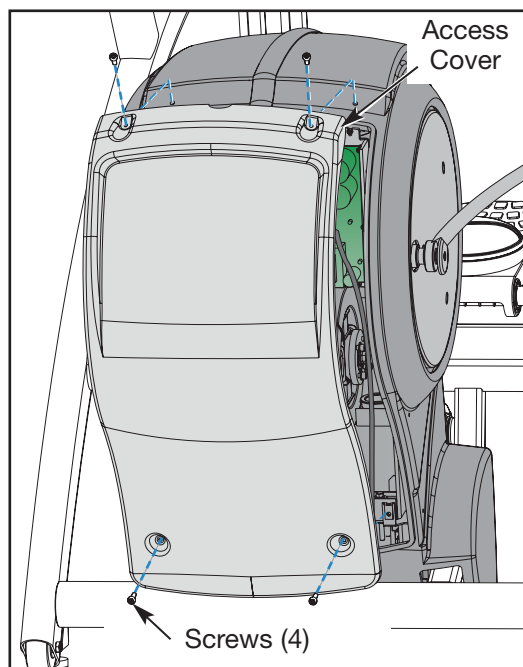
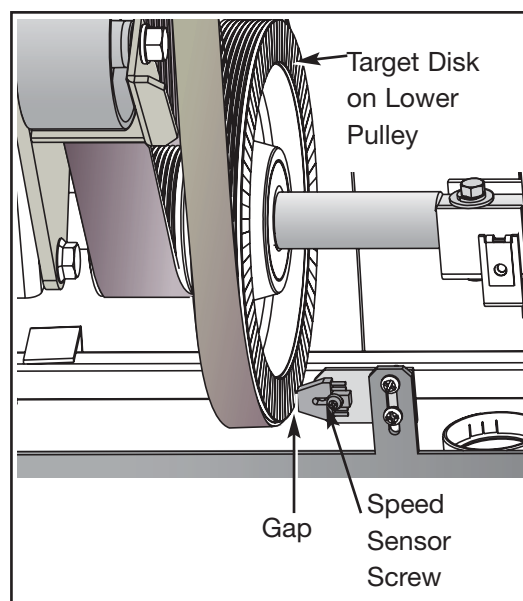

Figure 2
Figure 3
- A. Turn the main power switch above the power inlet to the off (O) position.
- A. Using a Phillips head screwdriver, remove the four screws securing the access cover. See Figure 2.
- A. Turn the lower pulley slowly and look for dirt, scratches or other damage on the target disk. See Figure 3. **NOTE:** If the target disk or speed sensor is dusty use a soft dry cloth to wipe off the dust. A dirty, scratched or damaged disk may cause Error 3 to occur.
- A. Measure the gap between the speed sensor and the lower pulley. It should measure  $\frac{3}{16}$ " (.48 cm) and should be parallel to the lower pulley. See Figure 3.
- A. Using a Phillips head screwdriver, loosen the screw securing the speed sensor in place. See Figure 3. **NOTE:** *Gently bend the side cover to get at the speed sensor screw.*
- B. Adjust the gap between the speed sensor and the lower pulley to 3/16" (.48 cm) and tighten the screw. See Figure 3.
- F. Press **Stop** and turn the power switch to the off (O) position.
- A. While being sure not to pinch any cables, hold the access cover in place. See Figure 2.